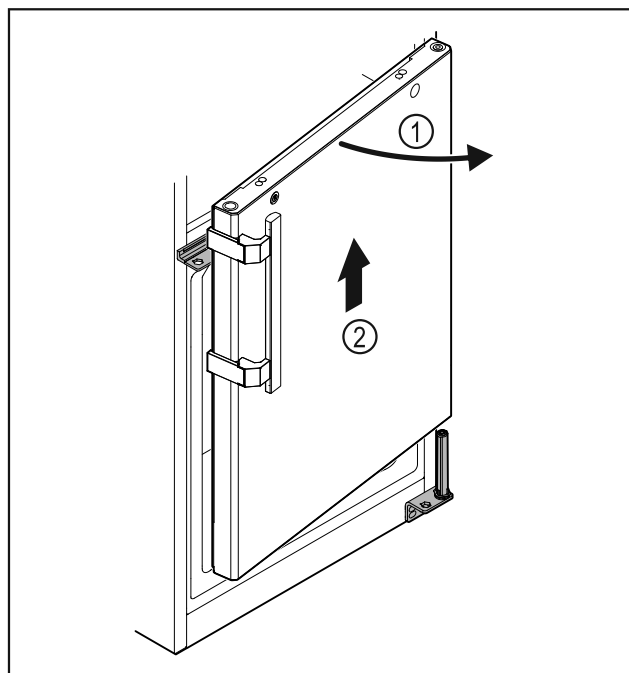

Fig. 23
- Open the door Fig. 23 (1) slightly, lift it straight up by around 200 mm and take it off Fig. 23 (2).